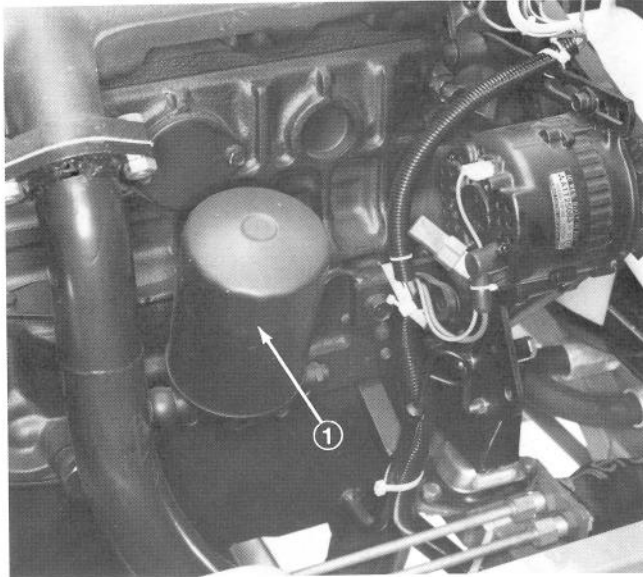

Figure 35
2. Remove oil filter (Fig.35). Apply a light coat of clean oil to the new filter seal before screwing it on. DO NOT OVER-TIGHTEN.